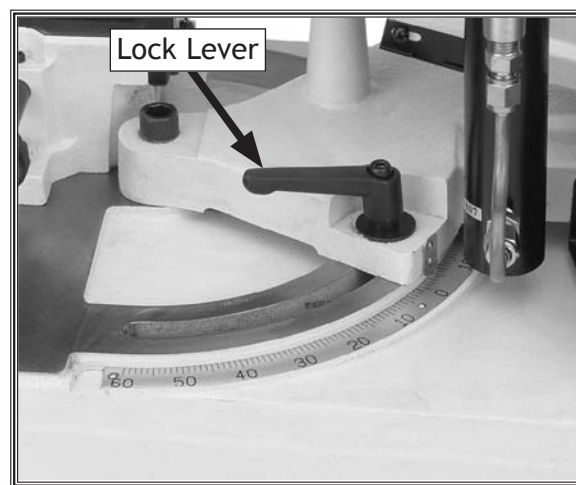

Figure 24. Headstock swivel system.
6. Loosen the headstock lock lever (**Figure 24**), and swivel the headstock to the needed angle of cut, and lock the lever in place.